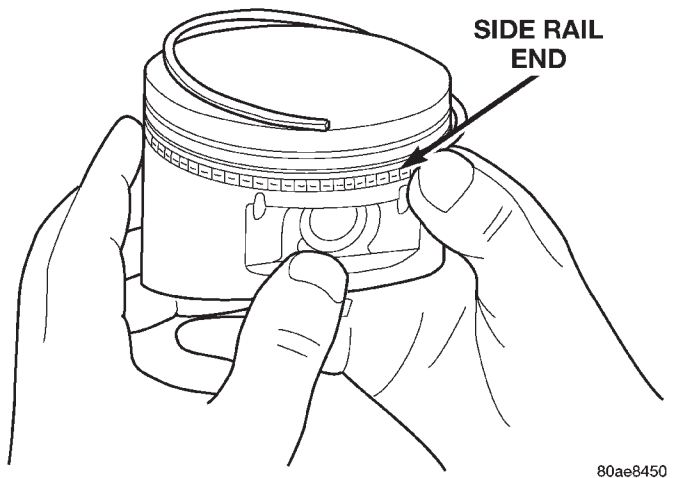
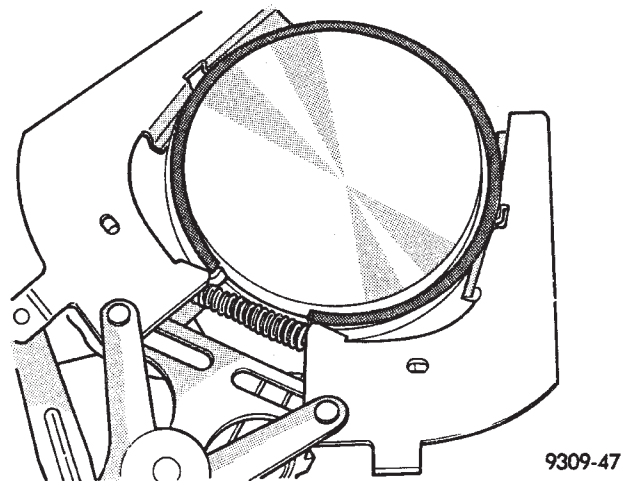

Fig. 96 Side Rail—Installation
Fig. 97 Upper and Intermediate Rings—Installation
- (2) Oil ring expander.
- (3) Upper oil ring side rail.
- (4) Lower oil ring side rail.
- (5) No. 2 Intermediate piston ring.
- (6) No. 1 Upper piston ring.
- (7) Install the side rail by placing one end between the piston ring groove and the expander. Hold end firmly and press down the portion to be installed until side rail is in position. **Do not use a piston ring expander during this step (Fig. 96).**
- (8) Install upper side rail first and then the lower side rail.
- (9) Install No. 2 piston ring and then No. 1 piston ring (Fig. 97).